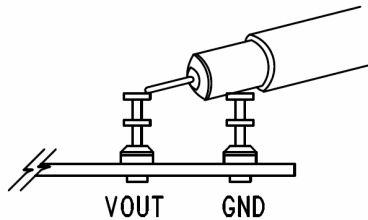

Figure 2. Measuring Output or Input Voltage Ripple
**NOTE:** When measuring the input or output voltage ripple, care must be taken to avoid a long ground lead on the oscilloscope probe. Measure the input or output voltage ripple by touching the probe tip directly across the VIN or VOUT and GND terminals. See Figure 2 for proper scope probe technique.